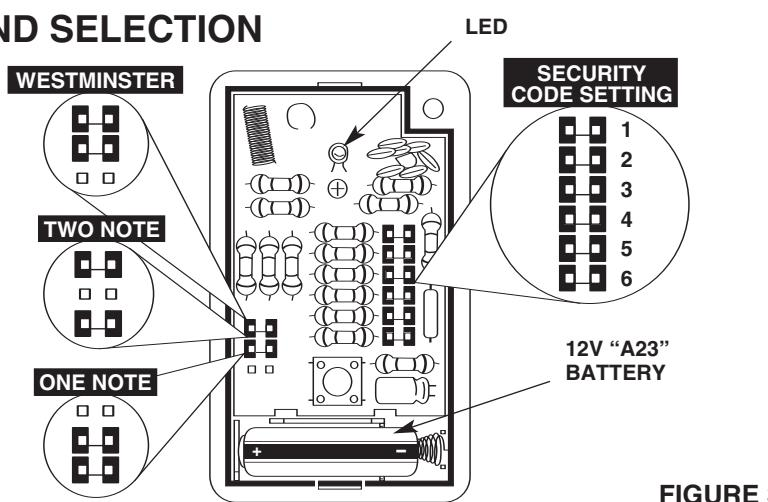

FIGURE 3
**Refer to Figure 3.**
2. Select the desired sound as illustrated in Figure 3.